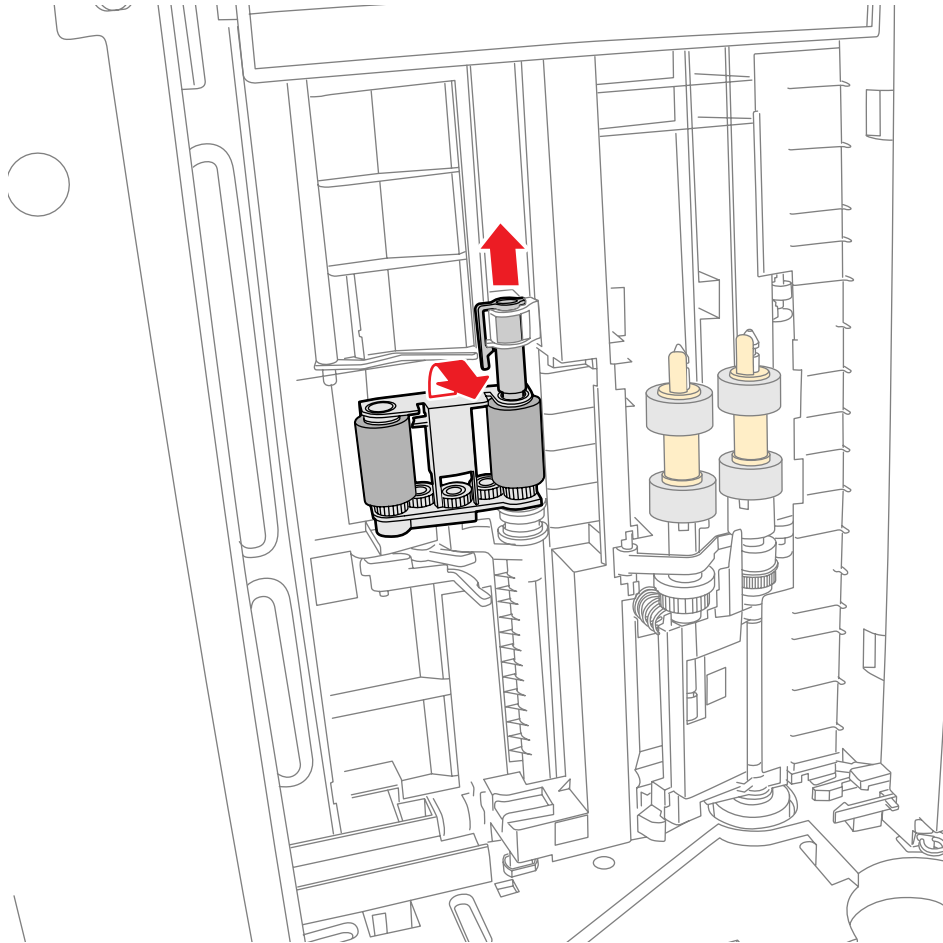

Figure 1
3. Release the clip that secures the Pick-up Flange and remove the assembly. (Figure 1)